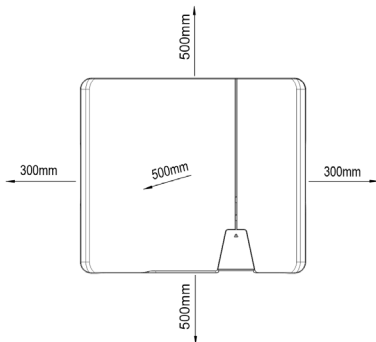

Fig. 3.1: Device for outdoor installation
**NOTE: The minimum clearances between two devices, or the device and the ceiling or floor have already been taken into account in the diagram Fig. 3.1.**